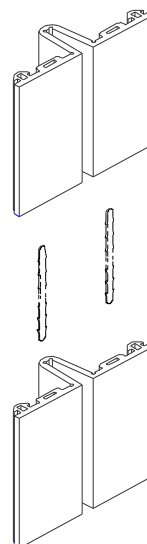

Figure 9
**STEP 5.** Align the mating seal sections with one another. Insert the other half of the splice pin into the splice slots in the mating section of the face seal. Press the mating sections of the face seal together, compressing the caulk and providing a seal at the splice, see Figure 9.